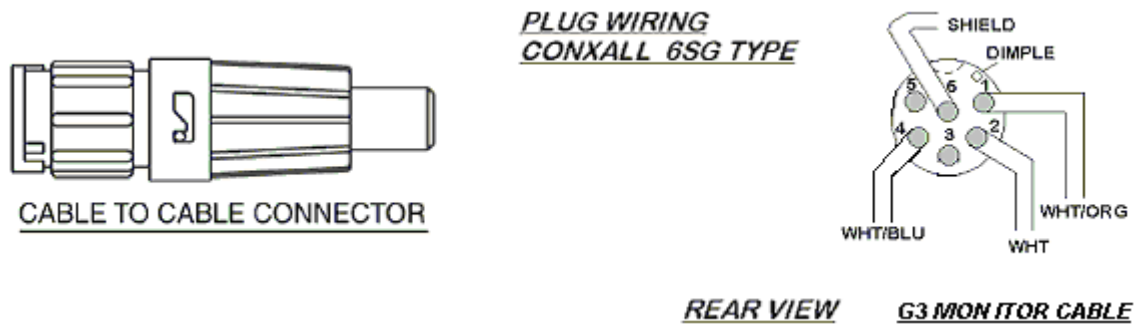

Figure B- 14: Download Port Connector to GEN III Monitor – ADAS+
- ❑ 050 Refer to the illustration in Figure B- 14, and connect the cable to the included ConXall™ plug connector using the illustrated pin configuration. Pin 1 is identified by a dimple. Pins 3 and 5 have no connection. Splice a short wire lead to the cable shield with a shrink-on solder sleeve to make the Pin 6 shield connection